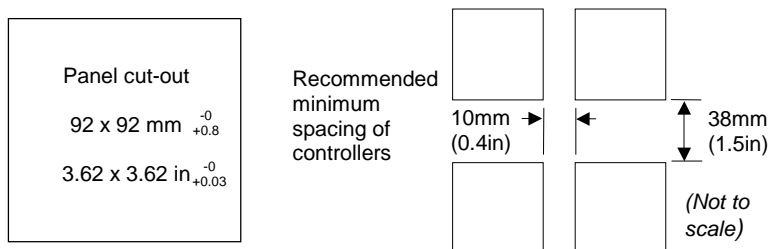

Figure F-2: Panel Cut-out and Minimum Spacing Requirements
1. Prepare the panel cut-out to the size shown in Figure F-2. Ensure that there is sufficient spacing between instruments as shown by the minimum dimensions given in Figure F-2. Ensure also that the controller is not mounted close to any device which is likely to produce a significant amount of heat which may affect the performance of the controller.